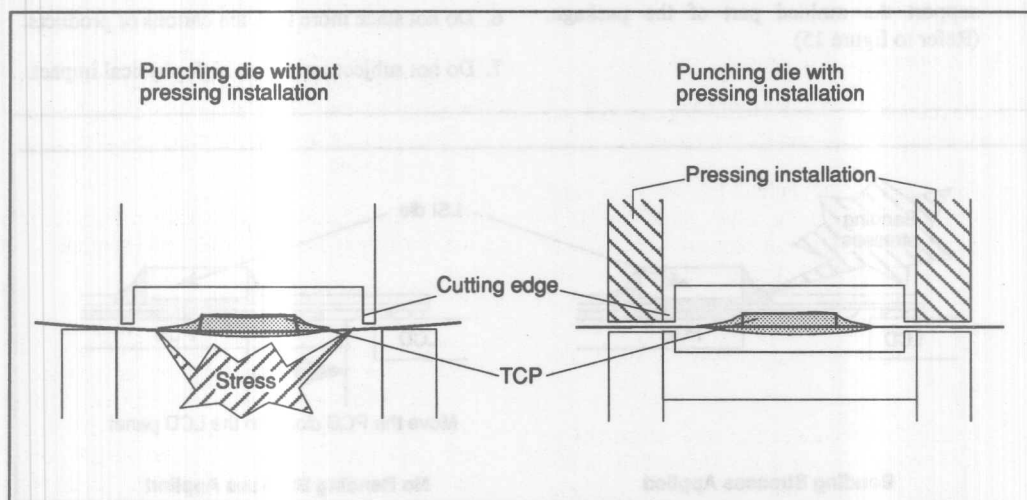

Figure 13 Punching Die
- Use a metal punching die with pressing installation to prevent resin cracks and reduce cutting stresses in the outer leads. (Refer to figure 13.)